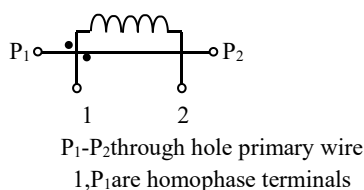

Fig 2
- ② The coil diagram is shown in Figure 2.